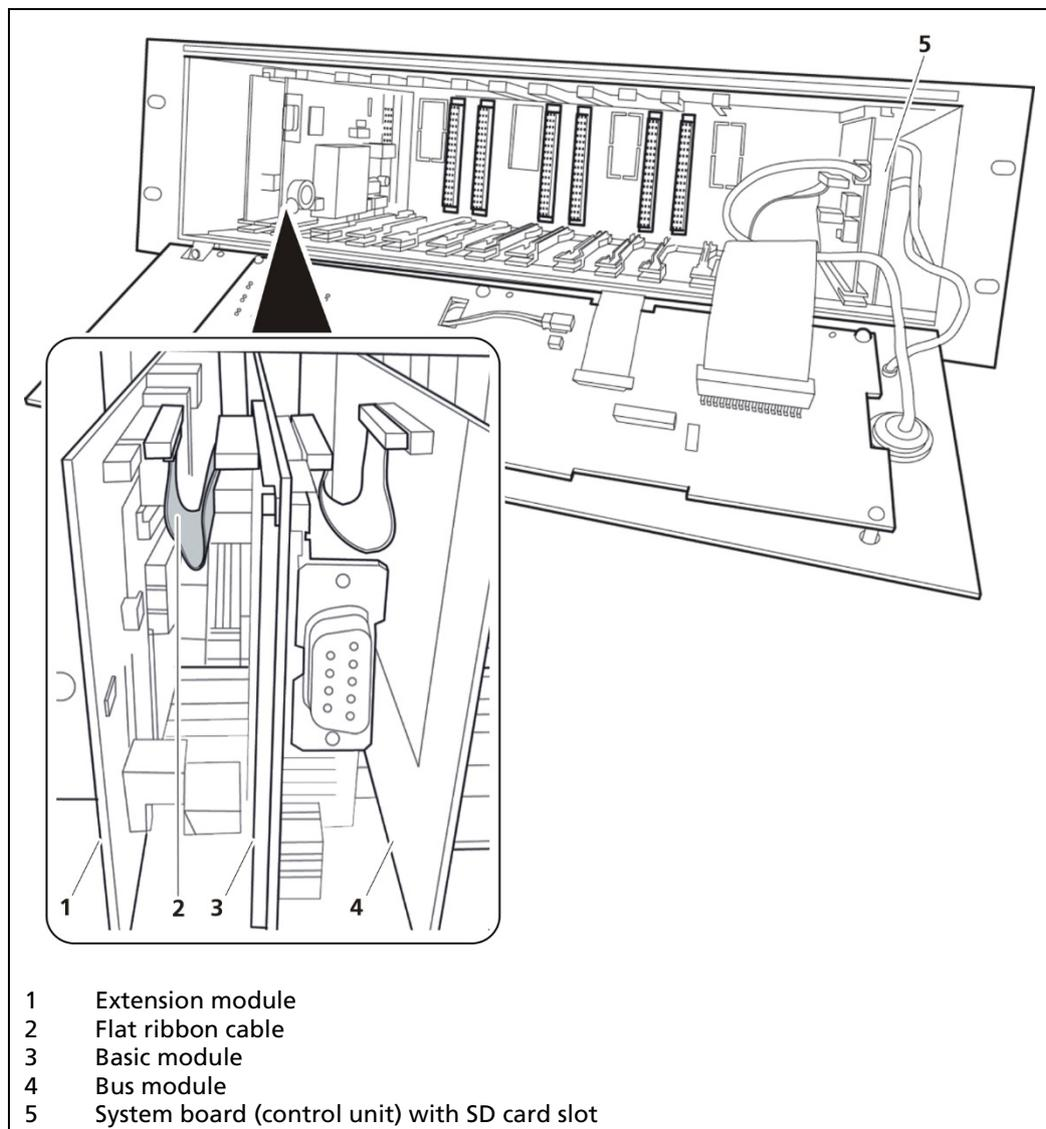

Fig. 9 Overview of the Installed Modules
4. Release all modules (Fig. 9, Item 3) and then pull out the measurement channel at the same time. Remove the flat ribbon cable(s) if needed (Fig. 9, Item 2).
- Push all the modules (Fig. 9, Item 3) of the measurement channel in again **at the same time**.
4. Release the modules (Fig. 9, Item 3) and pull out the measurement channel **at the same time**. Remove the flat ribbon cable(s) if need be (Fig. 9, Item 2).
7. Push all the modules (Fig. 9, Item 3) of the measurement channel in again **at the same time**.